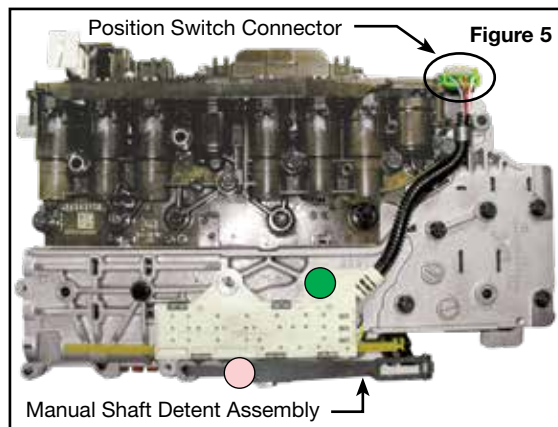

Figure 5
- Remove the single 8mm head bolt and manual shaft detent assembly. Release the position switch assembly connector, remove the single 10mm head bolt, then remove the position switch assembly (**Figure 5**).